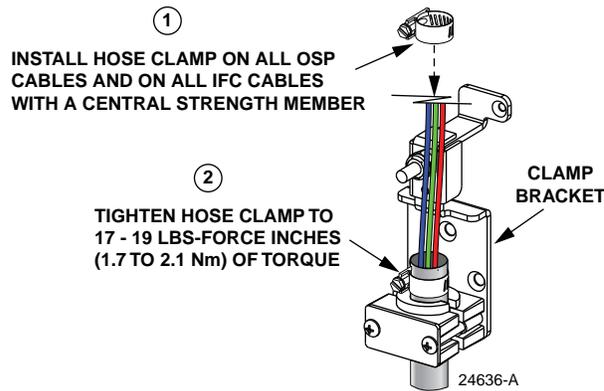

Figure 16. Hose Clamp Installation
11. If the feeder cable is an OSP cable, or an IFC cable with a central strength member, install a hose clamp (shipped with loose parts) over the end of the cable as shown in Figure 16.
13. If a hose clamp was placed over the cable in step 11 (see Figure 16), tighten the hose clamp to 17 to 19 lbs-force inches (1.7 – 2.1 Nm) of torque.